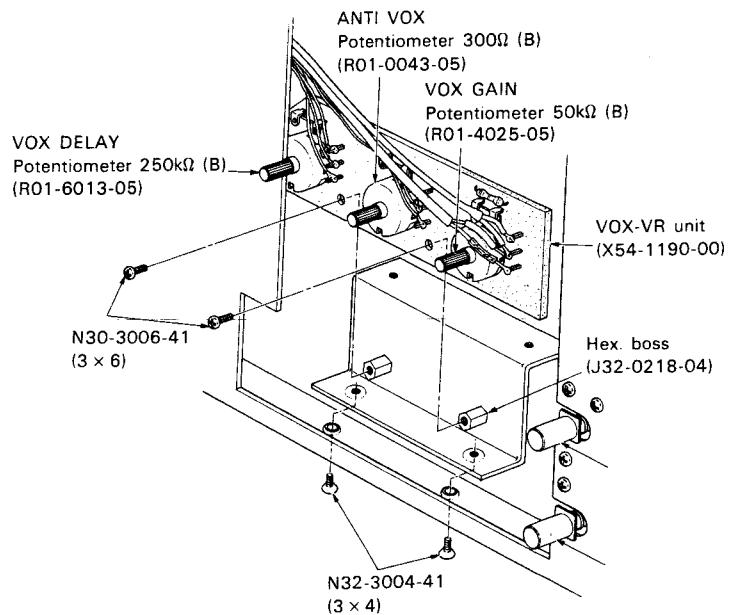

Fig. 17(a) Removing the VOX • VR unit
- 3) Remove from the subpanel the chassis, on which the VOX/VR unit is mounted, according to **Fig. 17** and detach the unit.